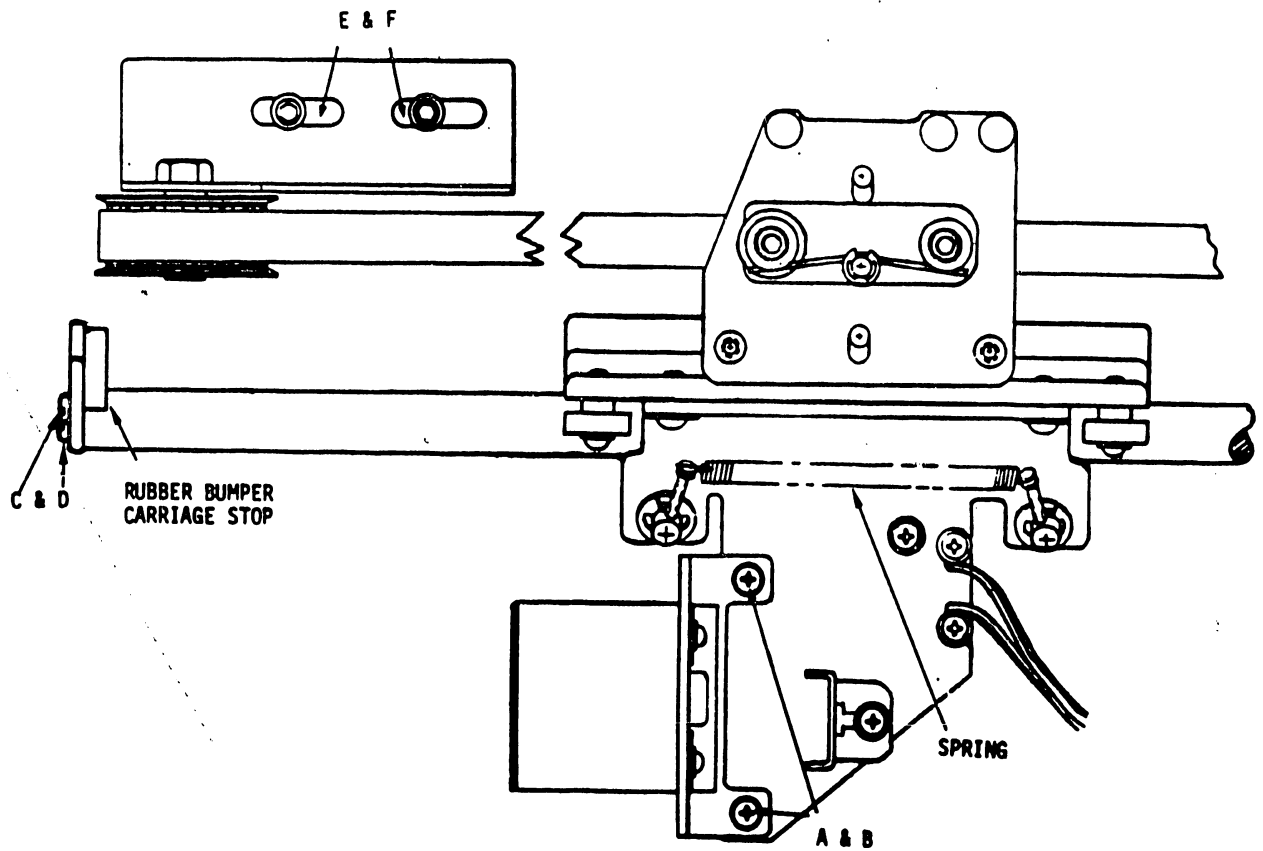

FIGURE 5-32 CARRIAGE ASSEMBLY REMOVAL AND REPLACEMENT
- 3) Pull the finger board for the photocoupler and disconnect the ribbon cable by removing screws A and B. Loosen and remove photocoupler. Do not scratch timing fence. See Figure 5-32.